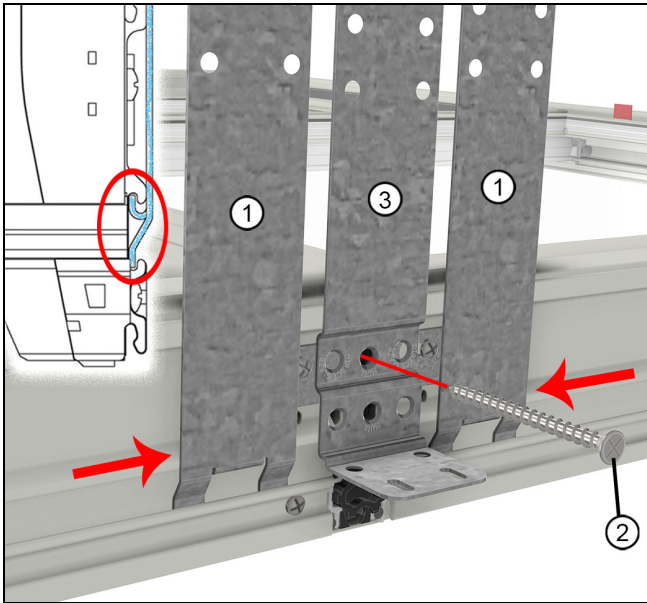

Figure 13 At jamb
7. For mulls with MRF: For sill mull ends at the sill, apply two "flat" sill structural brackets spaced 1-1/8" from the center of the mull. Apply one 90° bent structural bracket between the first two, centered on the mull. See Figure 13.